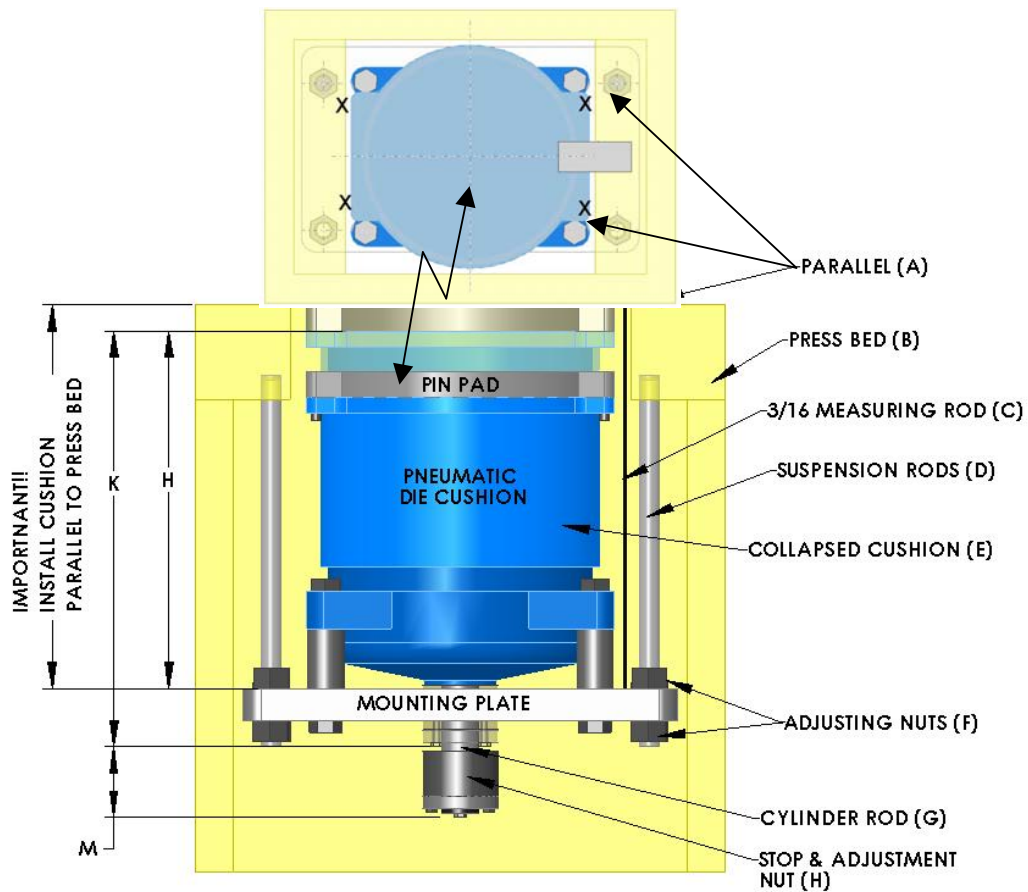

Fig. 6 Press Bed Mounted Model D cushion.
(1) Remove the bolster plate and check both surfaces carefully to make sure they are flat and parallel. **THIS IS IMPORTANT!** If surfaces are bowed and not parallel, have them machined so that the pin pressure pad of the cushion will have an accurate surface to stop against.
(2) Screw the ends of the suspension rods, "D", (See Fig. 6) with the short length of thread into the chilled and tapped holes in the press bed, which have been provided for mounting the die cushion. Make sure these rods are pulled up as far as they will go into the tapped holes. If the cushion is to be suspended from mounting bosses that are not tapped, the mounting rods are provided with nuts on both top and bottom of the bosses.
(3) With the use of skids or timbers, slide the cushion unit into the approximate location relative to the press bed opening. (**NOTE:** If the distance between the mounting rods at the front of the press bed is not enough to allow the cushion to pass between them, it is advisable to leave them out until after the cushion has been placed under the press bed opening.)
(4) Run on the upper adjusting nuts, "F", as far as they will go. Raise the cushion unit so that the rods pass through the holes in the mounting plate or mounting channels and run on the lower adjusting nuts, "F".
(5) Prepare a measuring rod, "C" from 3/16" round steel for adjusting the height and alignment of the cushion unit. The over-all length of this rod should be equal to the dimension "H", plus the thickness of the pin pad minus 1/8". **The 1/8" is allowed to make sure that the pin pressure pad comes to rest against the bottom of the bolster plate.**
(6) With a large parallel, "A", laid on top of the press bed, (See Fig. 6) line up the supporting structure at the four points marked, "X", by using the measuring rod, "C". The adjustment and alignment of the mounting plate at these four points must be held to a maximum tolerance of 1/64" avoid a tilting action. After this adjustment is obtained, lock the upper adjusting nuts on the mounting plate, which will secure the cushion unit in correct parallel alignment and relative height in connection with the top of the press. Install 3/8" set screws into all the nuts (one screw in each nut in the most accessible location). Shallow pilot holes should be made into the threads on the rods with a 5/16" drill through existing hole in the nut. Please remember to use blue Loctite on the set screws' threads.